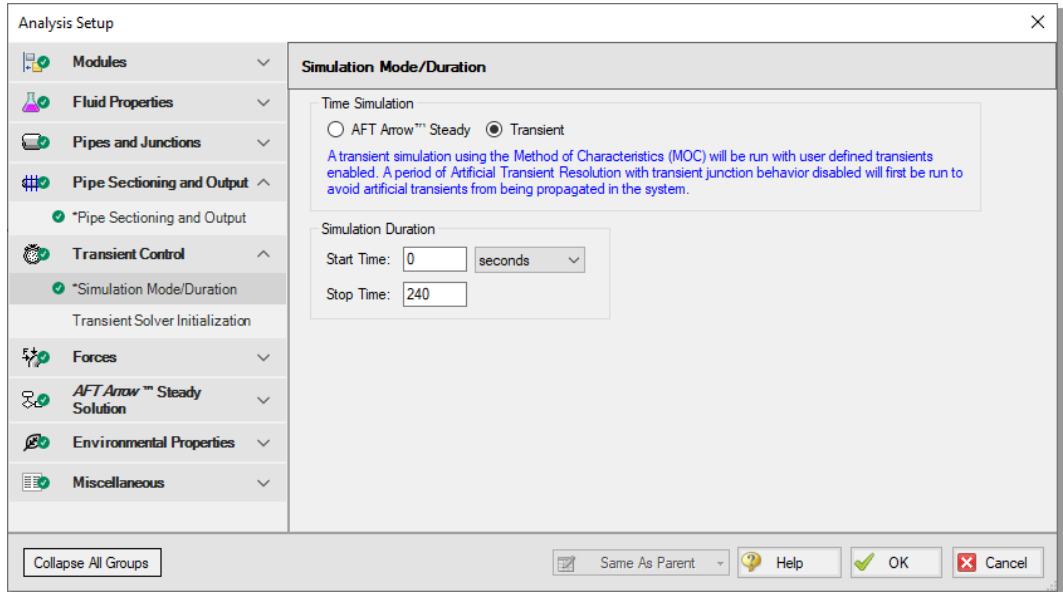

Figure 2.17 The Simulation Mode/Duration panel is used to specify the simulation type and the time span for the transient
- **Select the Simulation Mode/Duration panel** (Figure 2.17). Enter 0 seconds for Start Time and 240 for Stop Time.